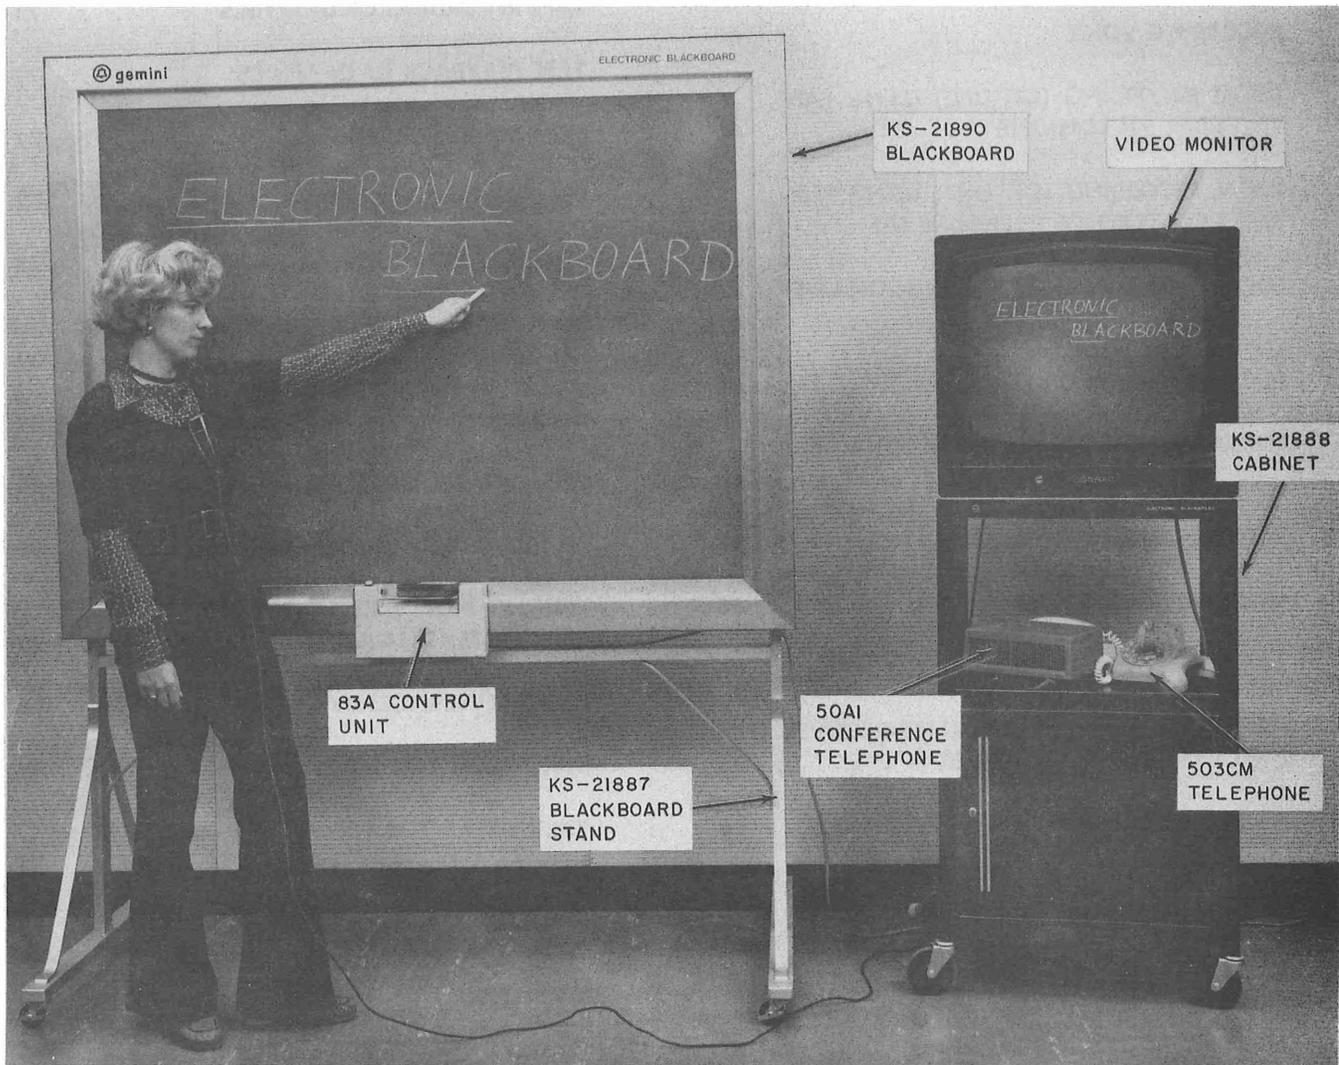

Fig. 1—Electronic Blackboard Station—Overall View
1.01 The GEMINI* 100 Electronic Blackboard System (Fig. 1) provides for the transmission and display of hand-written information. Transmission is in real time over two-wire voice grade circuits. Either the switched network or private lines may be used.
KS-21890 BLACKBOARD (Fig. 1)
KS-21887 BLACKBOARD STAND (Fig. 1)